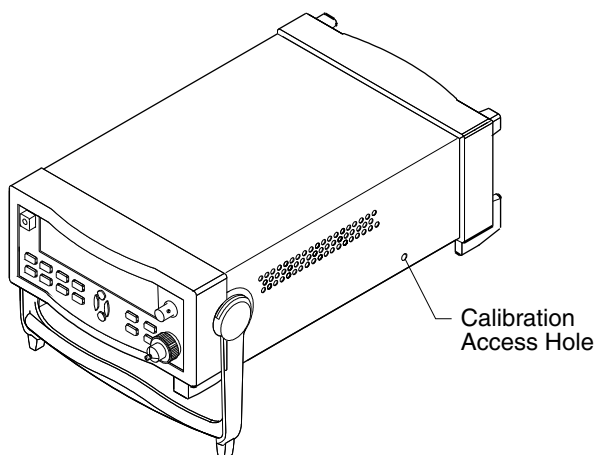

Figure 2-1 Calibrating the Counter
- 2 If there is a label covering the calibration adjustment access hole, remove it (see Figure 2-1).